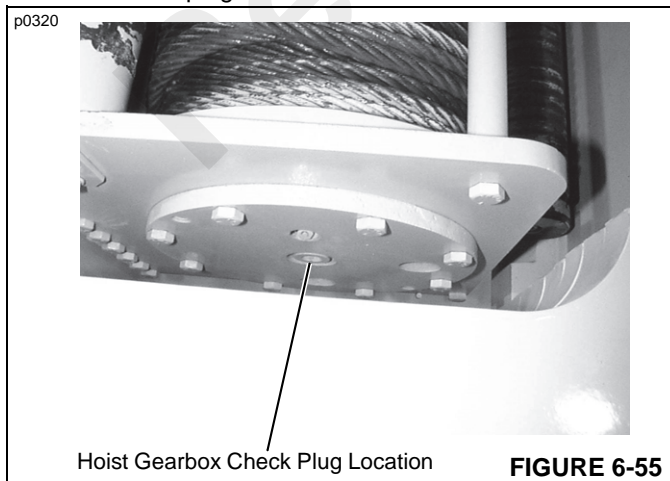

FIGURE 6-55
3. Clean around the fill/check plug (Figure 6-55) and then remove the plug.
7. Remove the check plug (Figure 6-55).
NOTE: Two different model boom hoists have been used on the Model 4409-2. Before performing any maintenance on the hoist gearbox, verify which hoist is installed. Tulsa Model 1250C hoists use a plug in the center of the drum to check the lubricant level (Figure 6-55). Braden Model PD12C hoists use a sight gauge to check lubricant level (Figure 6-57).